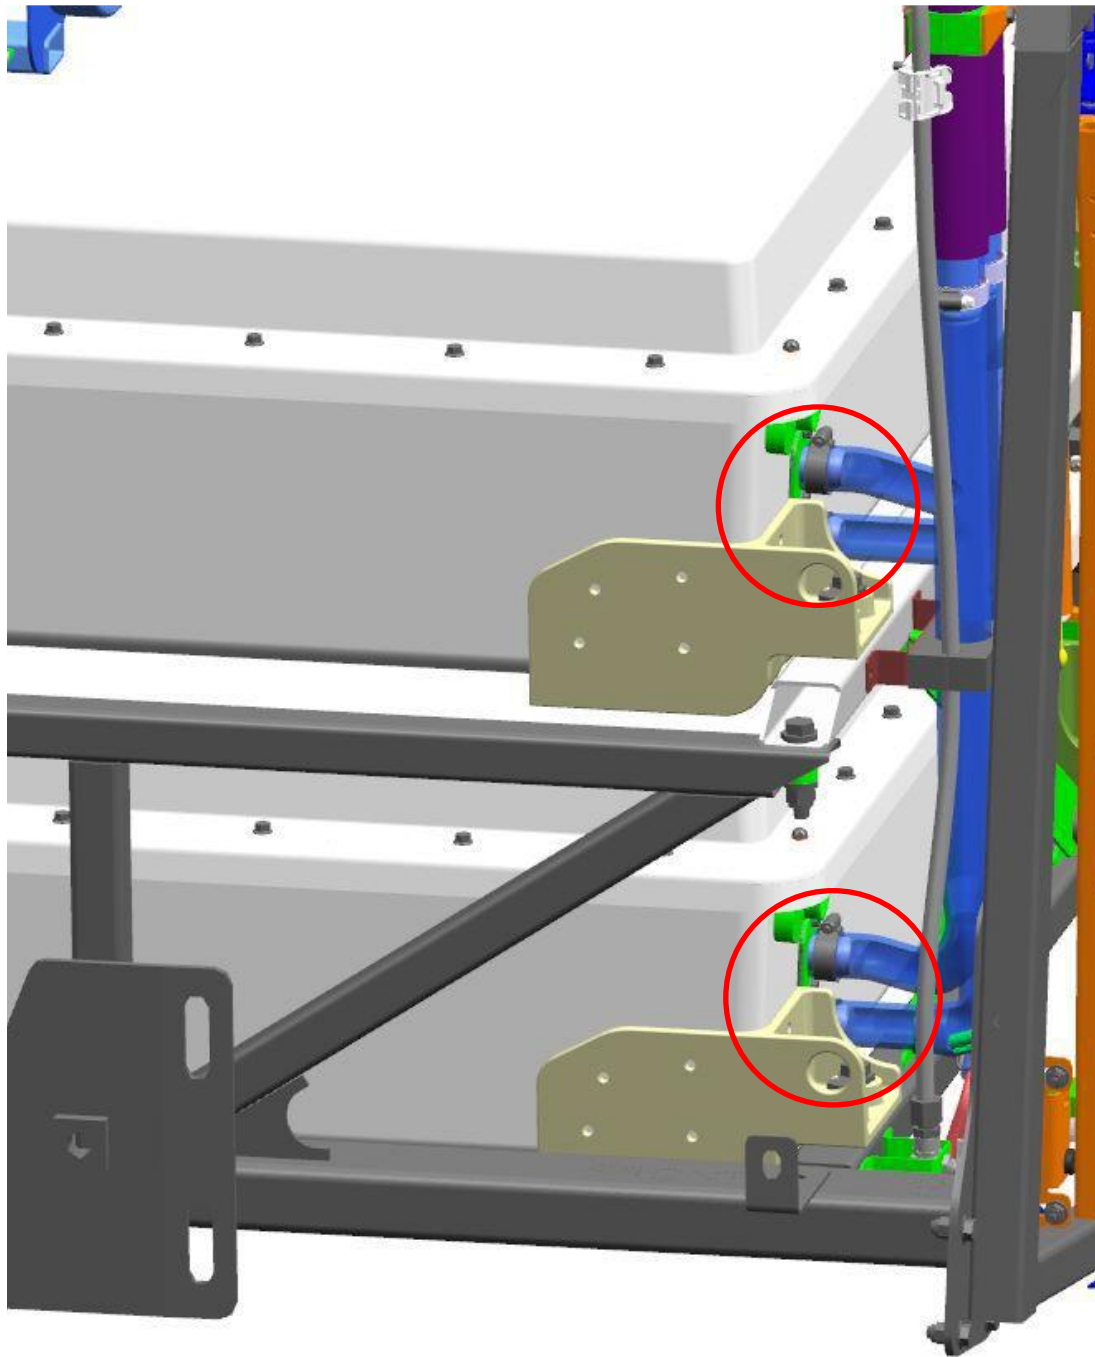

Figure 6: Low voltage and coolant line connections reference.
13. Disconnect and secure the low voltage harness connected to both ESS packs. Disconnect the supply and return coolant lines from both ESS packs. See figure 6.